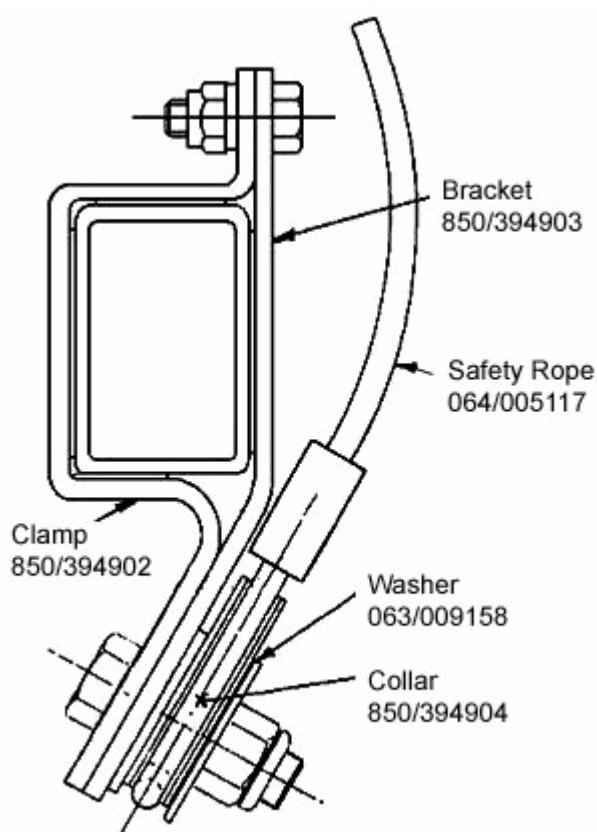

Figure 1: Rod to Rod Safety Rope Brackets
1. Check that the "rod to rod" lateral control rod safety rope brackets are to Figure 1 (taken from Drgs PB-C1-2100877 or ATC-C1-2200669). If it is carry out item 3.